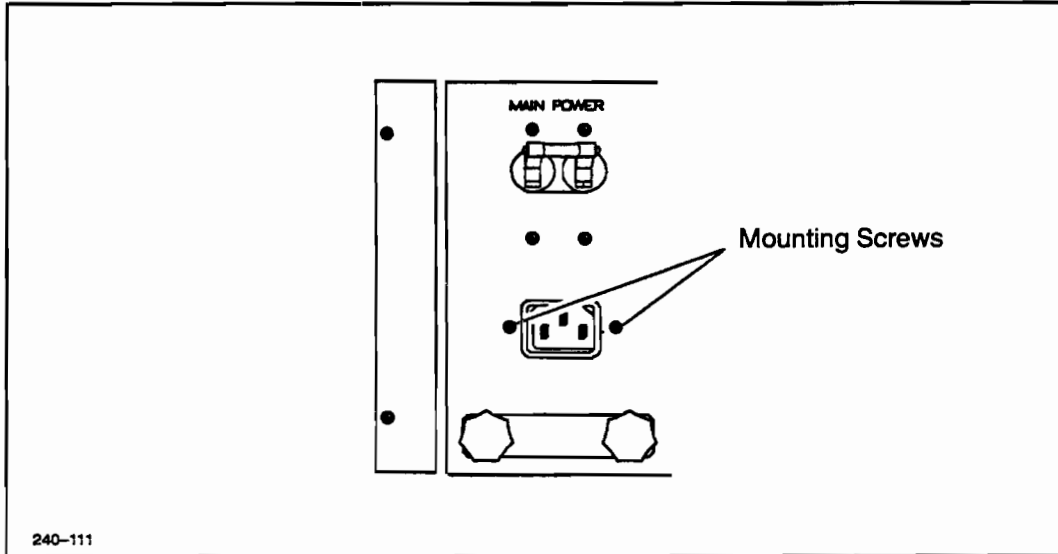

Figure 6-23. Line Receptacle Mounting Screws
6. Using a #1 Phillips screwdriver, remove the two line receptacle mounting screws. See Figure 6-23.